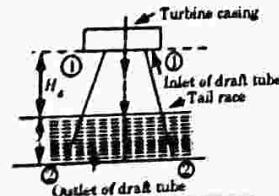

Fig. 5.17.2. Draft tube theory.
1. Consider a draft tube as shown in Fig. 5.17.2.